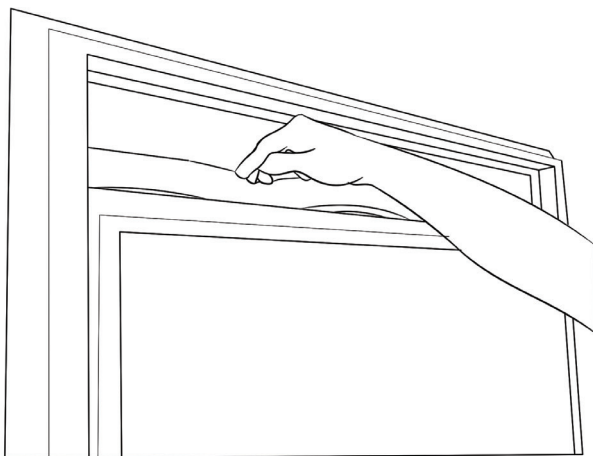

Figure C.4.7
STEP 9. Cut the window seal gasket (C in parts list) to match the window width and insert it between the window sashes as shown in Figure C.4.7.